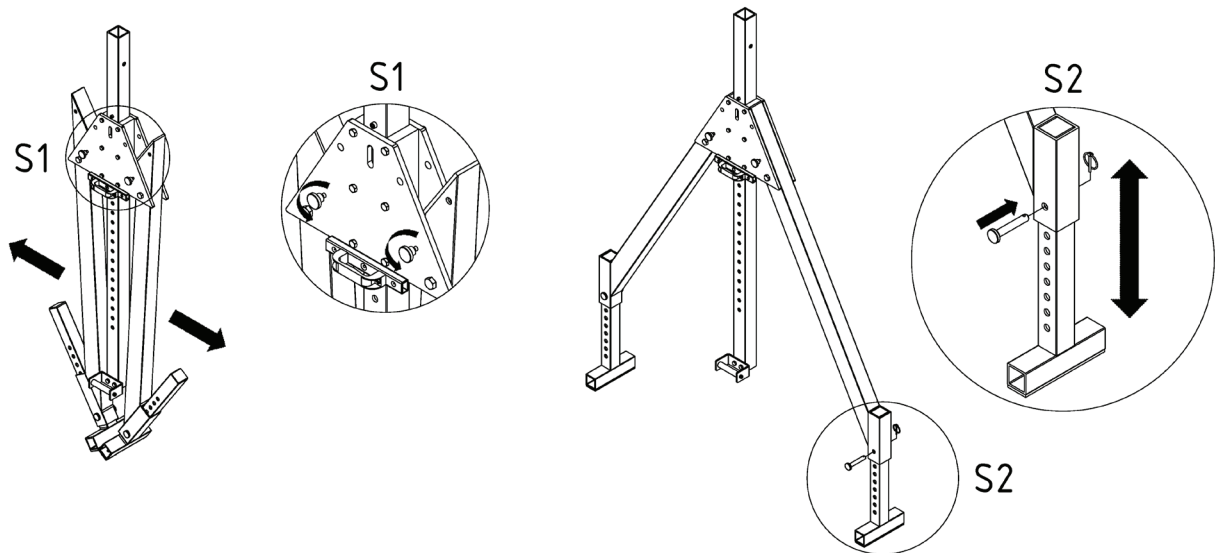

Fig. 1
- 7.1 Loosen the knurled screws as shown in figs. 1 and 2.